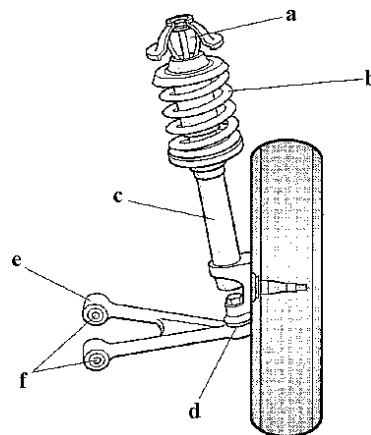

Figure 2
14. **Figure 2** shows a type of car suspension system which uses the axis of a telescopic damper as the upper steering pivot